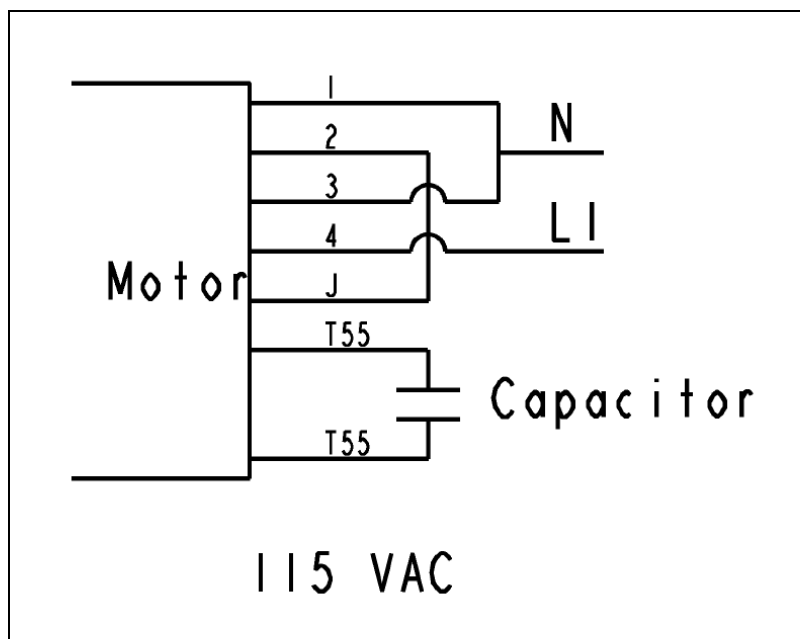

Fig. 9: 115V Connection
2. Connect pumps according to figs. 9 or 10.